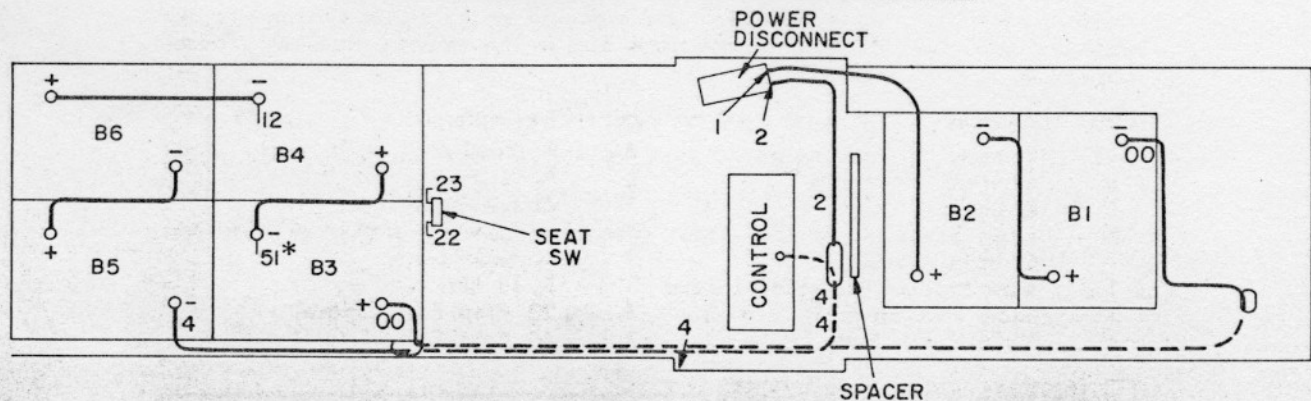

FIG. 1. Battery Wiring Diagram
2. Remove the special Wheel Horse batteries from the tractor. Begin by removing all terminal covers and battery hold downs. Disconnect the negative battery cable from battery B5, then disconnect the remaining cables. **Note the positions of all cables.** (See Fig. 1). Remove the batteries from their compartments.
4. To reinstall the batteries, first lay the tray so that the drain holes line up. Place the spacers as required. Put the batteries in place and make a tight connection as shown in Fig. 1. Check the power pack for voltage. A reading of 36 volts D.C. should be produced from the positive post on
battery B2, to the negative post on battery B5. (See Fig. 1). If 36 volts is not read, recheck the battery wiring. (See Fig. 1). Coat all terminals with battery grease. Install terminal covers and battery hold downs. Charge the batteries, referring to ELECTRICAL SYSTEM SECTION, "Charging the Batteries".